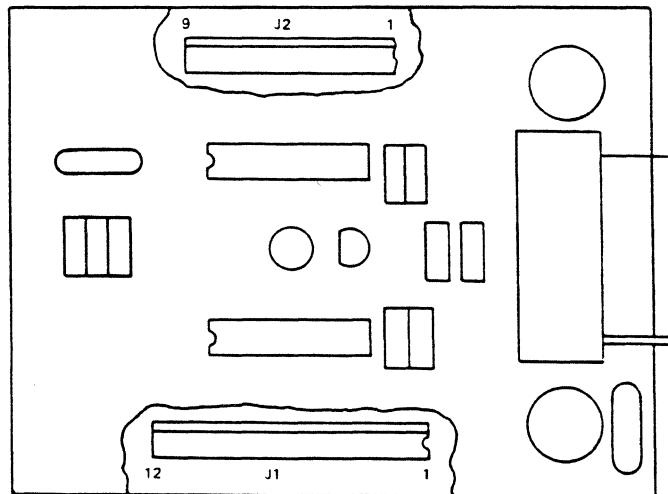

Figure 7-12. Cassette Adapter Board
- e. Locate ribbon connectors J1 and J2 on the cassette adapter board (Figure 7-12).
- b. Reconnect cables J1 and J2. **Remember, the black plastic caps on the cables must always make contact with the nylon protrusions (Figure 7-12).**